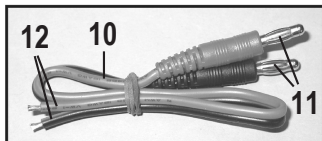

Figure 2
➔ The charging cable (see figure 2, pos. 10) is depicted coiled up for phototechnical reasons only. The cable may not be coiled up when used for charging.